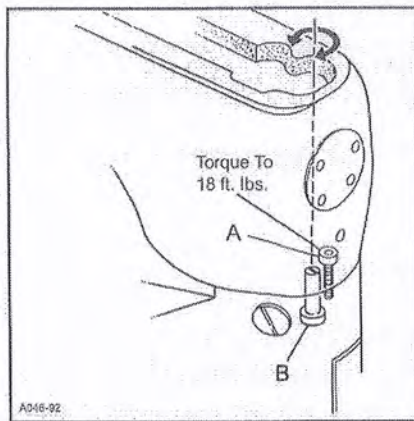

FIG. 5
Remove the top front cover and gasket from the main frame. Loosen cylinder holding screw (A, Fig. 5). Turn eccentric screw (B) clockwise or counterclockwise to move the cylinder so the needles are centered in the needle holes. Tighten screws (A) torque to 18 ft. lbs. and recheck settings.